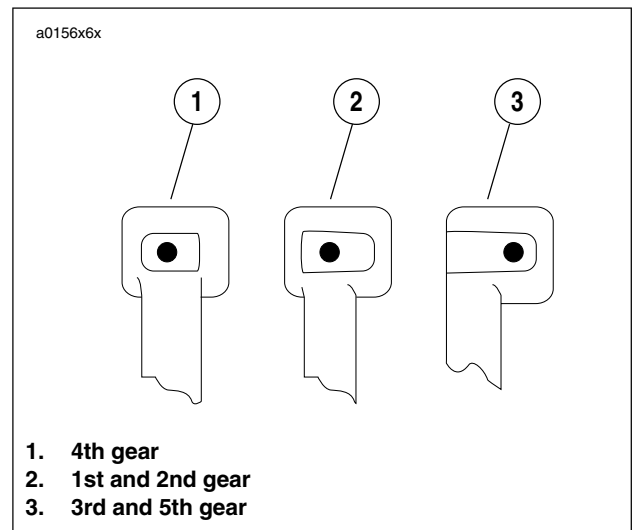

Figure 6-35. Shifter Fork Identification
1. See Figure 6-35. for shifter fork identification.